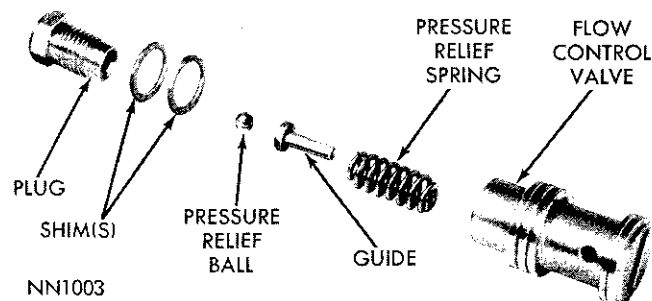

Fig. 19—Flow Control Valve (.94 Pump)
- (1) Insert spring, guide and pressure relief ball in end of flow control valve (Fig. 19).
- (2) Install hex head plug using the same number of shims as were removed. **Altering shim thickness will change relief pressure.**
- (3) Install hex head plug and tighten to 50 inch-pounds.
- (4) Insert flow valve spring and valve in bore. Install new "O" ring on pressure hose fitting and lubricate with power steering fluid.
- (5) Thread fitting into pump body and tighten to 20 foot-pounds.